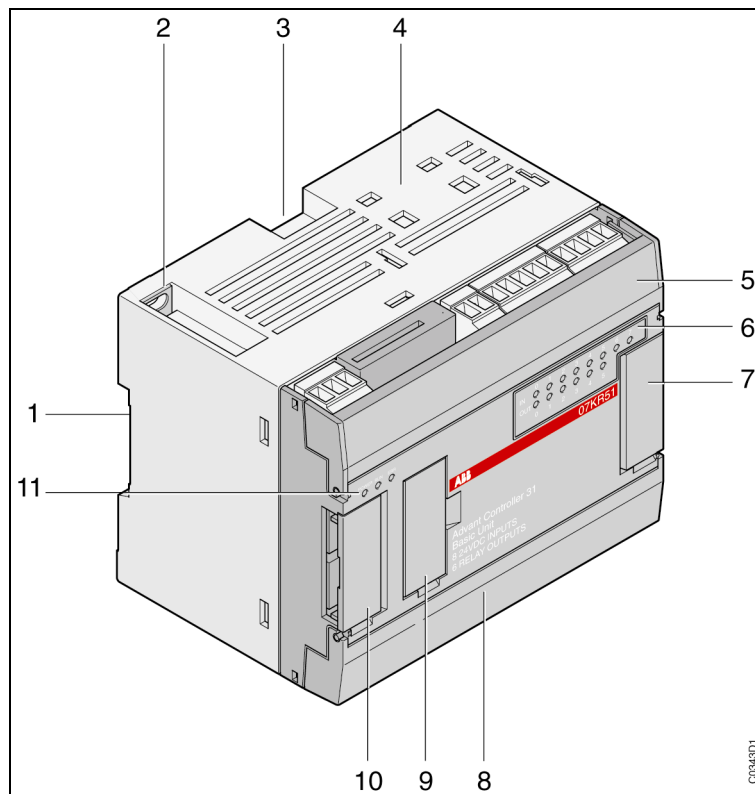

Figure 2-1: Basic unit
**Basic unit (description), see figure 2-1 on the previous page**